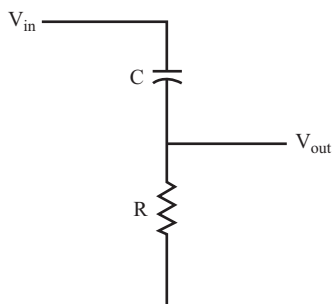

FIGURE 6.3
**6** If you connect a capacitor and resistor in series (as shown in Figure 6.3), the circuit functions as a voltage divider.